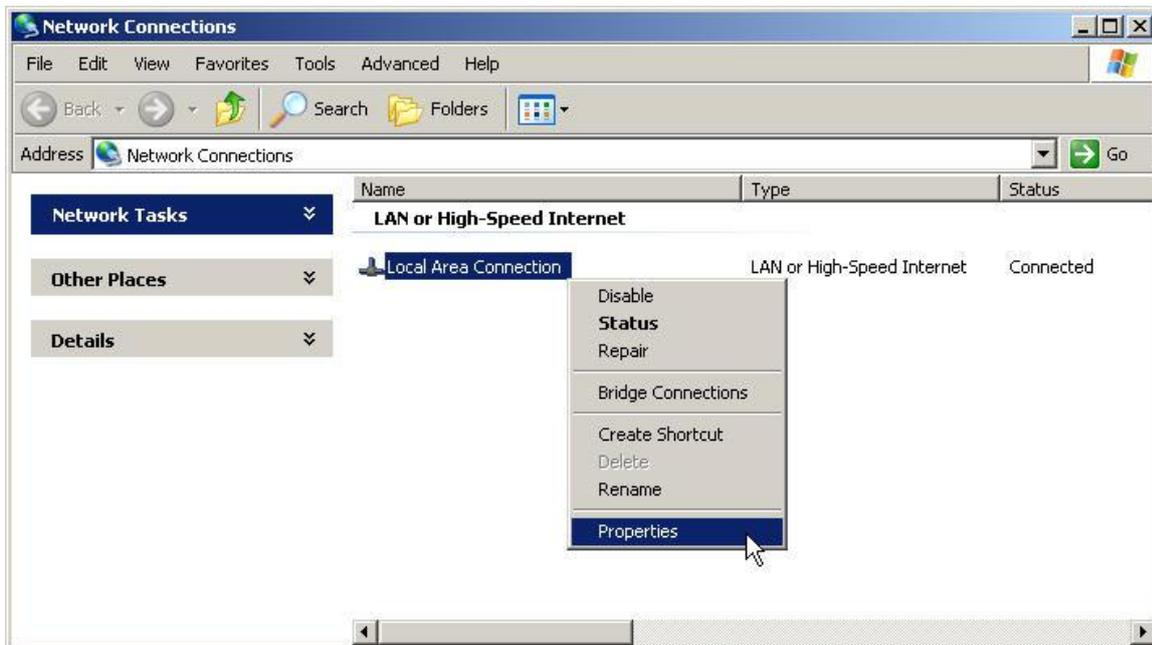

Figure 32 Network Connections
2. Right-click on the **Local Area Connection** and select **Properties** (Figure 32).